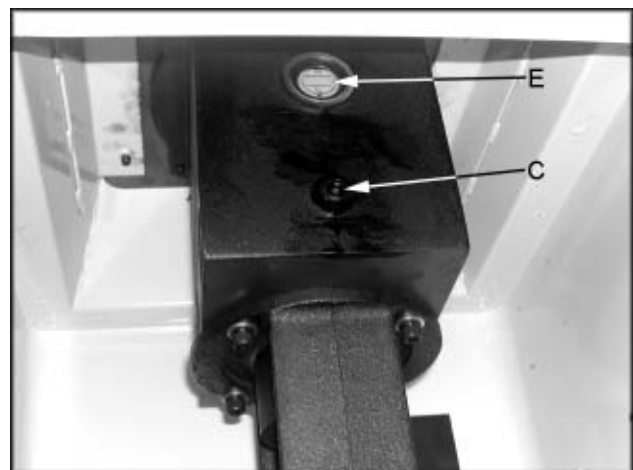

Fig. 8
1. Open the door on the back side of the machine to access the drain plug (C, Fig. 8). Use a 6mm hex wrench to remove the drain plug.
3. The oil sight glass (E, Fig. 8) should read between the "high" and "low" marks.